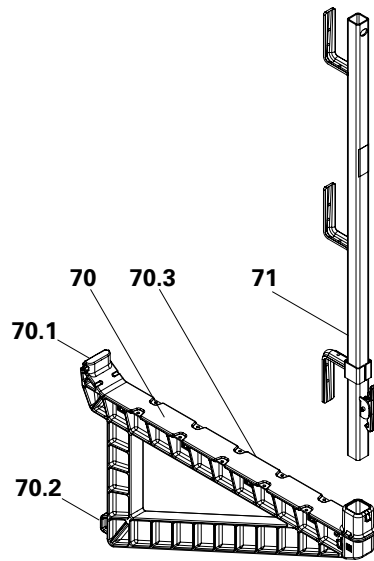
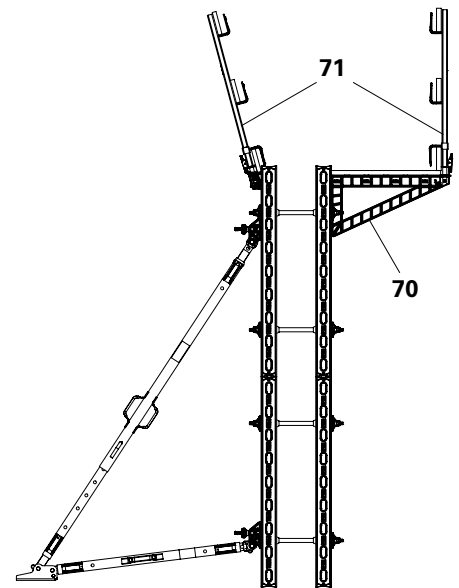

Fig. B4.02
Fig. B4.01
A concreting platform is erected on the DUO formwork by means of DUO 70 scaffold brackets. (Fig. B4.01 + Fig. B4.02)
1. Insert the PP post (71) into the DUO 70 scaffold bracket (70). (Fig. B4.02) → The PP post (71) engages with a clearly audible click.